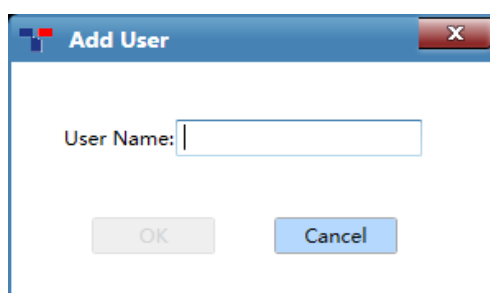

Figure D-2.1b Quick start bar - Add User
- **Register New User Account:** user can click < **Switch User** > and select **Add User** option in the drop-down menu of **User Name** input box; then the application software will automatically pop up the add user dialog box, as shown in figure D-2.1b. Please enter a new user account name in the **User Name** input box and click < **OK** > to register a new user account.